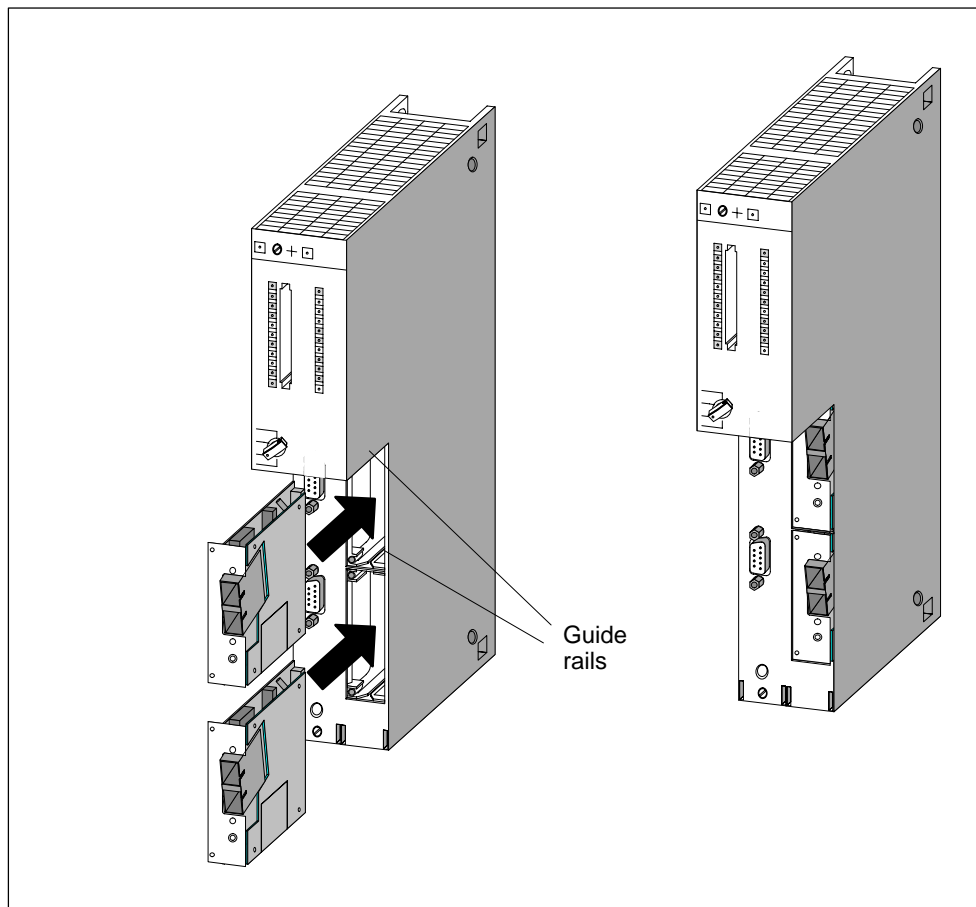

Figure 6-3 Inserting Interface Submodules in the CPU
4. Insert the PCB end of the interface submodule in the lower and upper guides of the card slot, as shown in Figure 6-3.